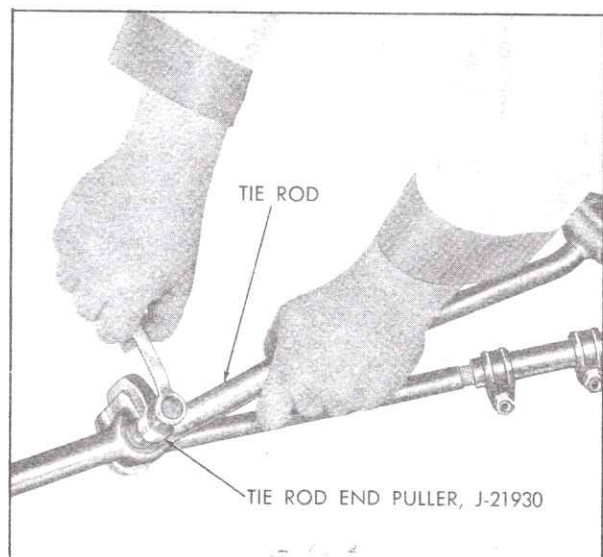

Fig. 9-47 Removing Tie Rod From Drag Link
2. Remove tie rods, using Tie Rod End Puller, J-21930, Fig. 9-47.